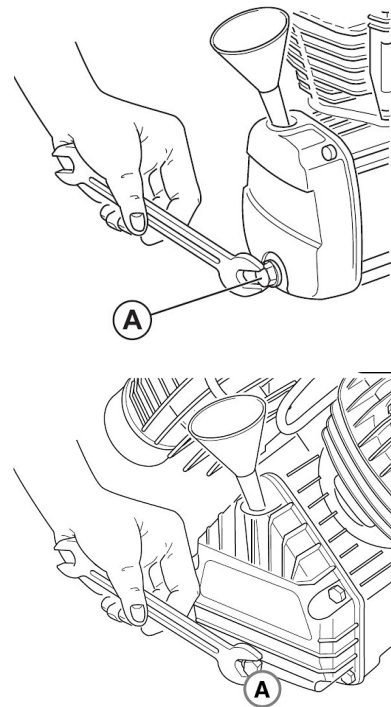

Fig. 12: Oil changes
Step 4: Drain the condensation by opening the valve located under the tank (7, Fig. 6 and Fig. 12). Close the valve again, as soon as only pure air, without condensed water emerges. Protective gloves